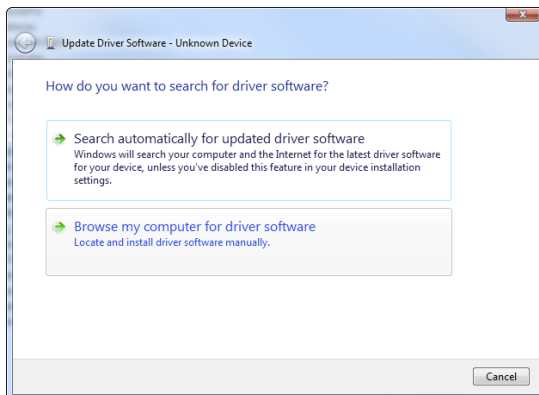

Figure 3-3:
4. Right-click Arduino Uno and select Update Driver Software in the list that appears; then click the Browse My Computer for Driver Software option (see Figure 3-3).